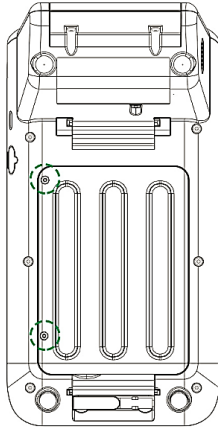

Figure 7
STEP 1: Remove the 2 screws and open the battery cover as **Figure 7**.
STEP 5: Place the battery cover to close the compartment as **Figure 7**.